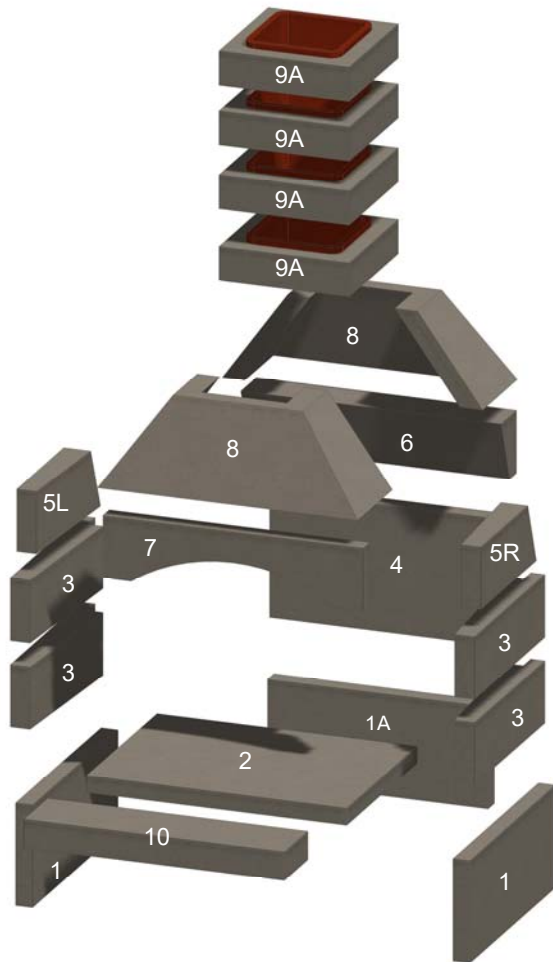
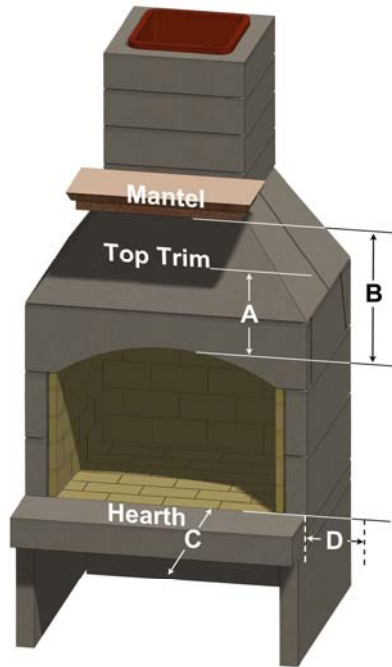

Figure 2. Fireplace Components
Figure 3. Clearances (Use with Table 2)
The fireplace is delivered as a kit with all components necessary to complete the installation. Component arrangements are shown in Figure 2. Components are listed in Table 1. Specifications and installation dimensions are shown in Table 2.
- A. Fireplace items shown in Figure 2 and listed in Table 1.
Table 2: Clearances (See Figure 3)
Note 5: Clay flue liners installed in flue section (item 9A, Figure 2) meet the specifications of ASTM Section C315-02.
Select a location in the home plans or outdoor living area where all the minimum distances, as shown in Table 2 and Figure 3 can be met. Proceed as follows. Numbers in () are item numbers from Table 1 and Figure 2. Ensure the base on which the fireplace is to be installed is a solid and level foundation and is composed of non-combustible material, such as concrete.
If the unit is to be installed indoors, do not use the Riser Legs (items 1 and 1A, shown in Figure 2 and Table 1). Instead, install the fireplace on a solid base, such as a cement pad or concrete blocks. Two courses of 8" tall block will be slightly shorter than the riser legs of the kit.
If this is your first Stone Age installation, it is suggested that you first assemble the components without mortar to familiarize yourself with how the components fit together. See Figure 2.
Q. Ensure the Table 2 and Figure 3 clearances and distances are maintained. Ensure that the hearth and flooring under and in front of the hearth are made of fully non-combustible materials, not just a non-combustible floor covering. When the hearth installation is complete, if the chimney complete and is not continuing through a roof or structure, you are ready to install the exterior finish. If the chimney will be continuing through a roof or structure proceed to Paragraphs 4.0 and 4.1 before beginning the finish application.
If installing a mantel and side trim, particularly if it is wood or other combustible materials, ensure the minimum distances shown in Table 2 and Figure 3 are met.